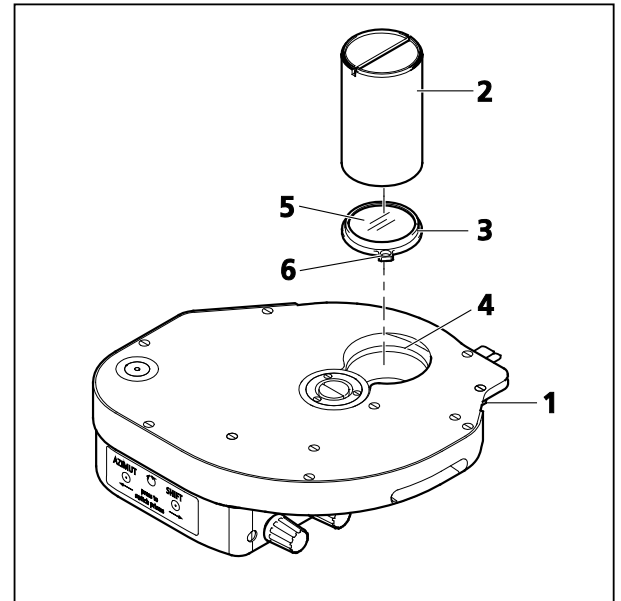

Fig. 28 Changing the DIC prism of the modulator turret
- Unscrew clamping screw (Fig. 28/1) on the turret.
- Manually turn the turret disk until the desired position is accessible in the opening (Fig. 28/4) from the top.
- Screw out the retaining ring, using the dual-function tool (Fig. 28/2).
- Now, screw the threaded side of the tool (Fig. 28/2) into the prism mount (Fig. 28/3) and then pull the DIC prism (Fig. 28/5) out.
- Mount the DIC prism in reverse order, paying particular attention to the correct orientation of the DIC prism (tongue Fig. 28/6 must be located in the recess of the mount provided in the modulator turret). Ensure that the labeling on the knurled ring of the turret disk is correct.